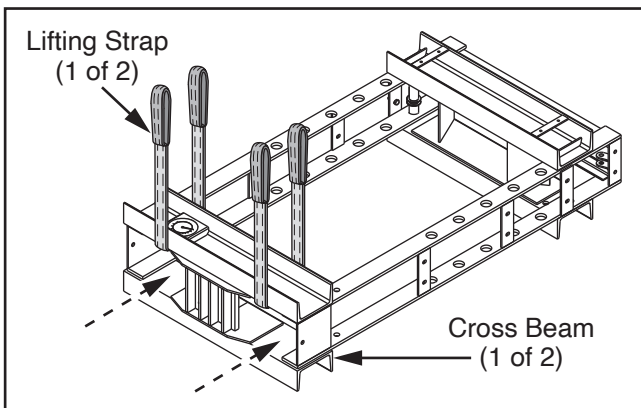

Figure 5. Lifting straps routed between cross beams.
2. Route (2) lifting straps between cross beams (see **Figure 5**).